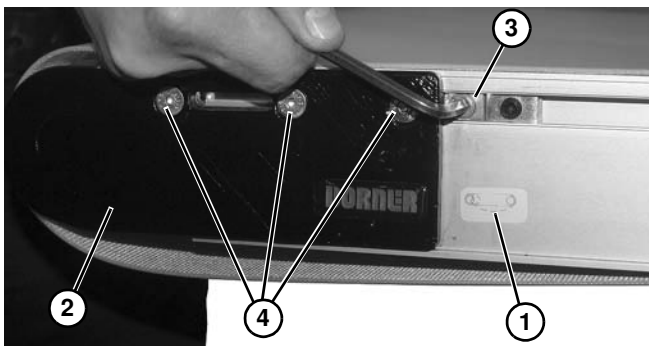

Figure 87
- On tension end of the conveyor, identified with  a label (**Figure 87, item 1**), push in head plate assembly (**Figure 87, item 2**):
- On both sides of conveyor, loosen and move cam tracking assemblies (**Figure 87, item 3**) (if equipped) away from head plates.
- Loosen fastening screws (**Figure 87, item 4**) and push head plate assembly inward.